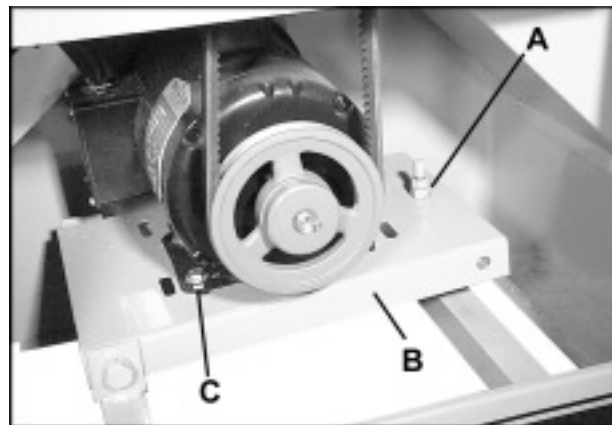
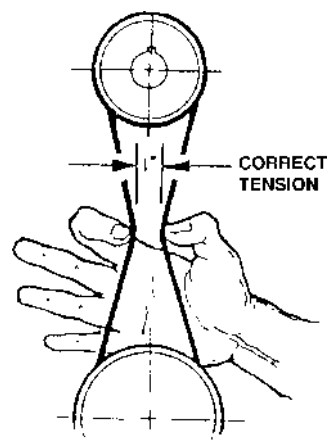

FIGURE 3
FIGURE 4
2. With a 9/16" wrench, loosen the nut on the adjusting screw (A) of the motor support plate (B) and lift the motor support up until the belt can be rolled onto the motor pulley. See Figure 3.
3. Push down on the motor support and retighten the nut on the adjusting screw (A) to create tension on the belt.
4. Using thumb and index finger, compress belt at center until it becomes taut. See Figure 4. At this point the distance between the in-sides of the belt should be one inch. Raise or lower the adjusting screw on the motor support as necessary until this proper tension is achieved.
Check that the motor and cutterhead pulleys are aligned. If adjustments are necessary, loosen the screws (C) in the motor support plate, as shown in Figure 3, and slide the motor back or forward as needed. Re-tighten screws when finished.